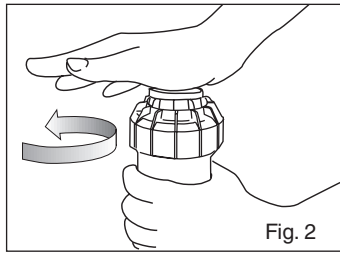

Fig. 2
- Using the palm of your hand, rotate the nozzle turret counterclockwise to the left stop to complete any interrupted rotation cycle (Fig. 2).